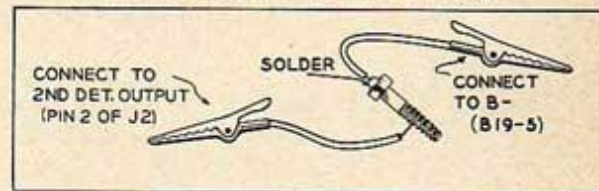

Figure 5
- Intermittently short the 2nd det. output (Pin 2 of J2) to "B" minus (B19-5) while observing scope. Use chassis bolt with clip-lead connected. See figure 5. Slip detector lead along threads for "pips" or intermittent connections to prevent scope input from charging.